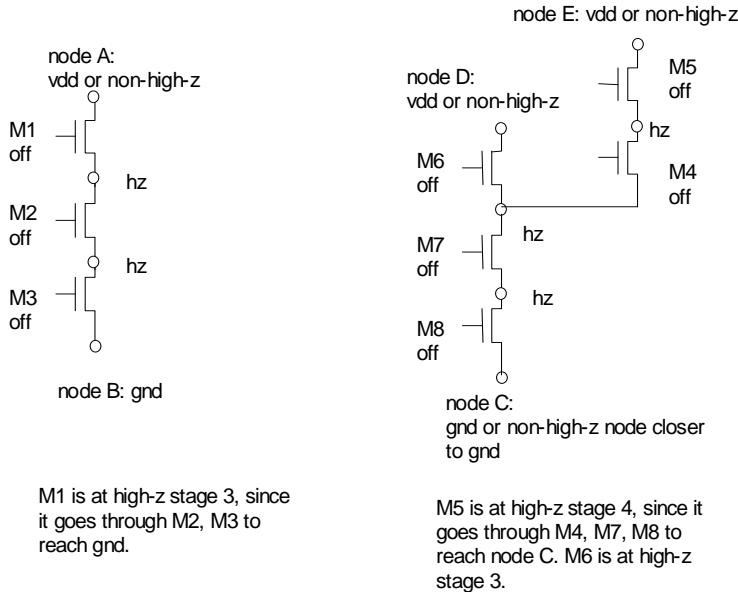

Figure 123 OFF Device Leakage Current with a High Impedance Node
A high-z stage is the distance from an OFF device with high-z node to a non-high-z node. Figure 123 on page 1070 shows an example of a definition of high-z stage.
In Figure 123 on page 1070, tracing starts at a given voltage source such as GND. For one branch, OFF devices such as M3, M2, and M1 are tested and stop at node A, which is VDD or non-high-z node. Another tracing starts from GND where two branches of OFF devices are found. One branch is M8 -> M7 -> M6 and the other is M8 -> M7 -> M4 -> M5. Nodes D and E are either power supply or non-high-z nodes.
When deciding the leakage current, only the top device in each branch is considered. In Figure 123 on page 1070, only M1, M6, and M5 are considered since they are the last element in each branch starting from GND node.
Figure 123 on page 1070 illustrates the following:
- Determine which OFF devices in Figure 123 on page 1070 have leaks:
- In Figure 123 on page 1070, for M1, nodes A and B are considered. The nodes between A and B are not considered since they are at high-z mode. Tracing begins from node B (that is, node B is closer to GND node). If $V_a > V_b + V_t$, where V_t is the threshold specified in the command, M1 has a leak. If M1 is a nch device of $L=0.18u$, its leakage current is the current ratio of z3 (1e-4 Amp/meter) multiplied by the width of M1.